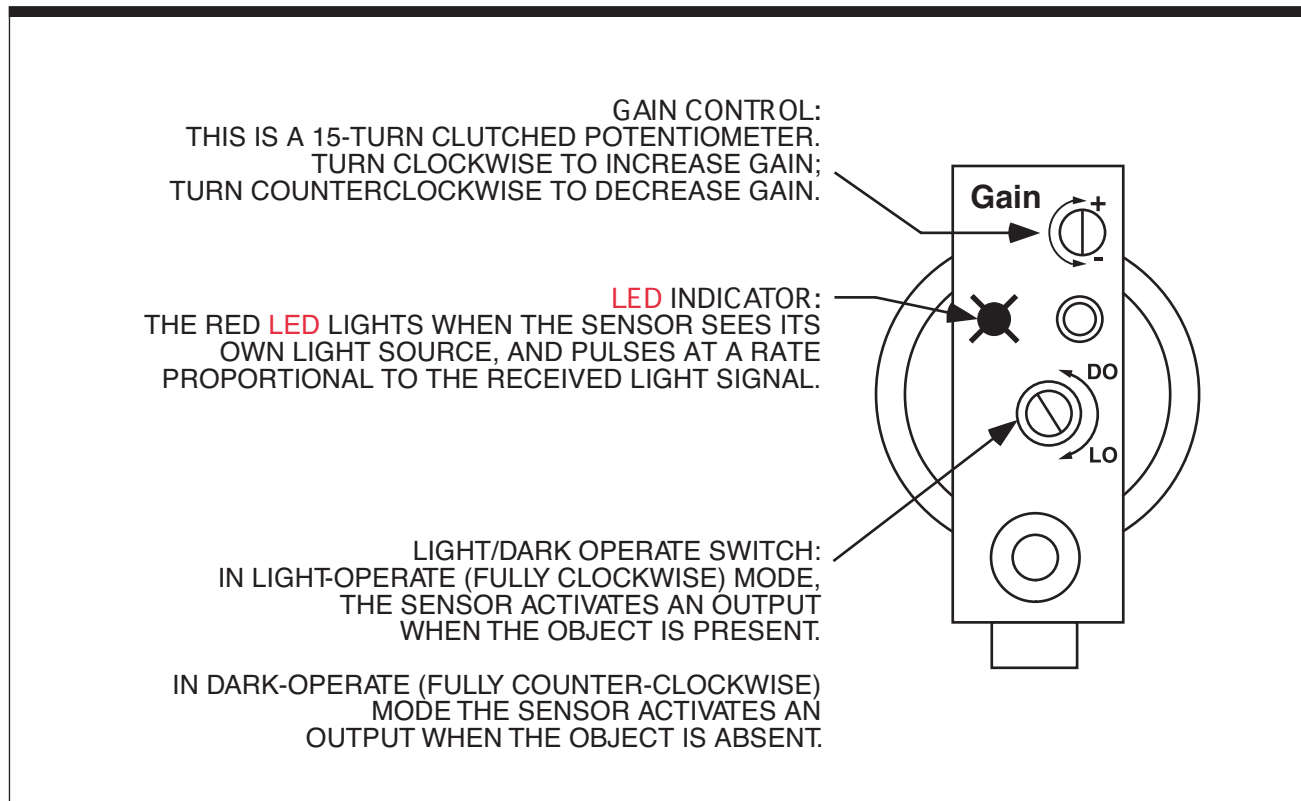

Figure 4-9. Product Sensor Setup
To select between sensing the leading edge or the trailing edge of a product leave the sensor operate switch set to "light operate" at all times. In the PRODUCT SENSOR EDGE screen of the operator interface select (0) (DETECT RISING PRODUCT SENSOR SIGNAL EDGE) to detect the leading edge, or select (1) (DETECT FALLING PRODUCT SENSOR SIGNAL EDGE) to detect the trailing edge. The default setting is (1). The standard sensor that is shipped with the labeler is set up for "light operate." Refer to Figure 4-9 for adjustments.